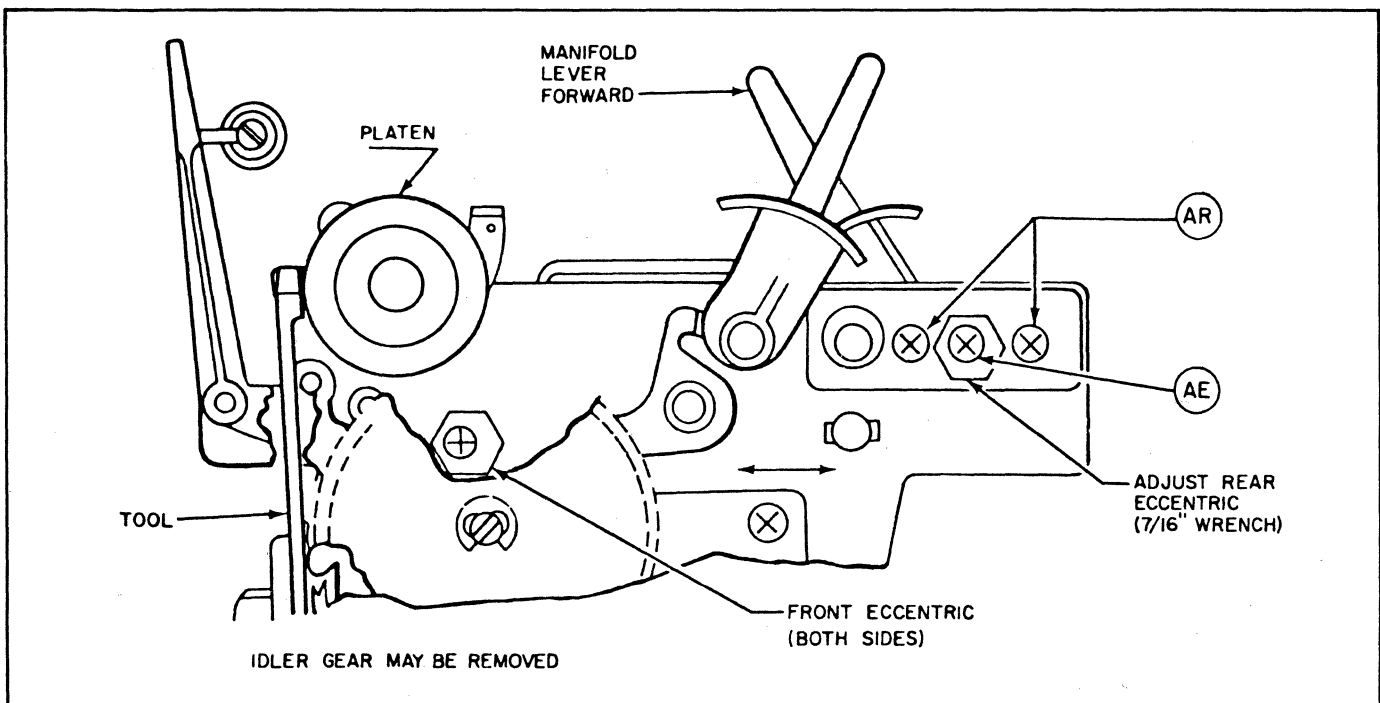

Figure 3-15. Platen-to-Printwheel Adjustment
3.4.1.4.3 Platen-to-Printwheel. Refer to Figure 3-15. Proceed as follows:
3.4.1.4.4 Platen Height. Refer to Figure 3-15. Proceed as follows: